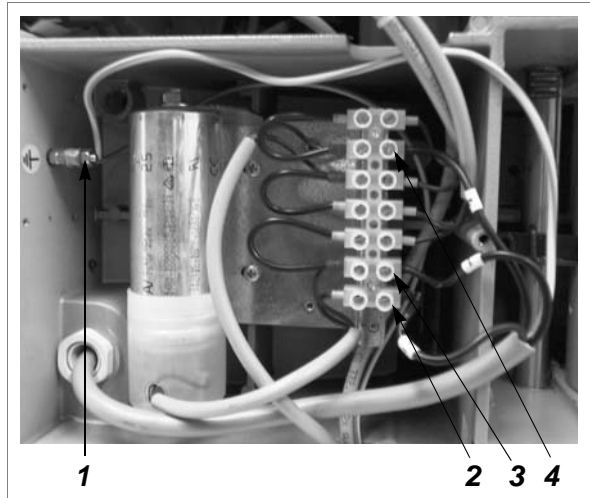

Fig. 35
- 3) Disconnect the 4 motor wires (1, 2, 3, 4) from their connections (fig.35).
- 20) Connect the 4 motor wires (1, 2, 3, 4) (fig.35).